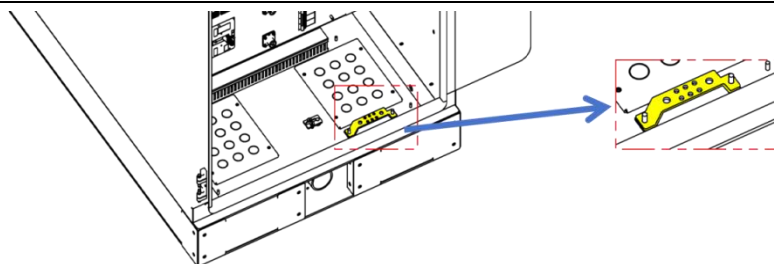

Figure 7-1 Grounding connection
3. Connect the grounding terminal to the grounding bar with the M10 fastener as shown in Figure 7-1.
- The battery cabinet grounding terminal is located at the grounding bar inside the cabinet, as shown in Figure 7-1 (referring to Grounding the Battery Cabinet ).